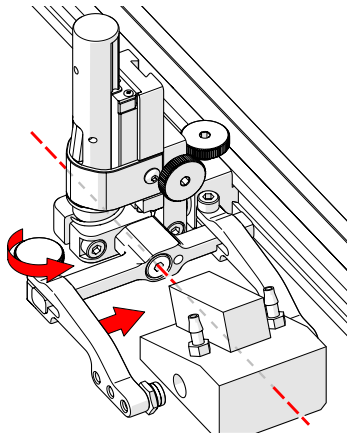

Fig. 66 - Adjust outer arm
5. Loosen the probe holder arm adjustment knob (Fig. 66) and slide the probe holder arm along the yoke pinching the wedge in place.